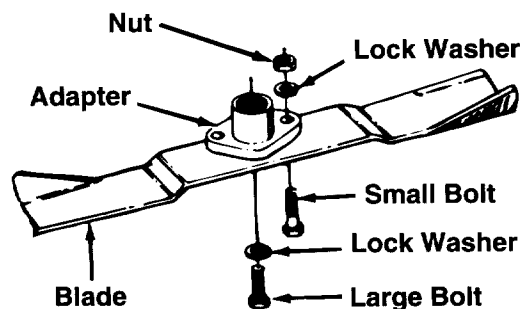

FIGURE 25A.—50" Deck
2. **50" Decks only:** Remove the two bolts, lock washers and nuts holding the blade to the adapter. See figure 25A.